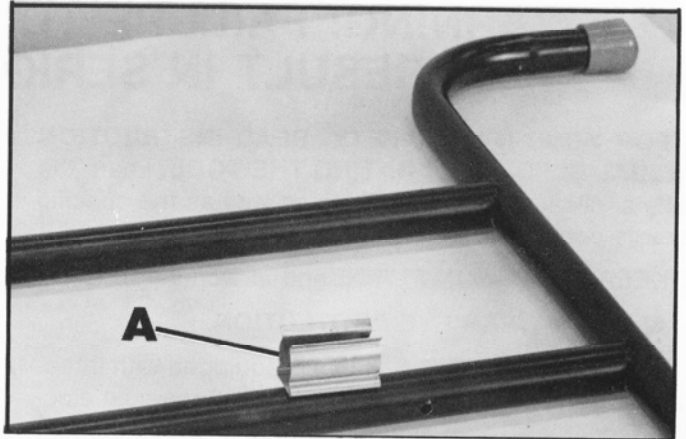

Fig. 3
2. The leg clamp (A) is shown assembled to one of the legs in Fig. 3. The leg clamp is used to hold the other leg in the closed position when folding the legs to transport the saw.
1. The leg assembly with the clamp (A) Fig. 3, attached to it is to be mounted to the left side of the saw.